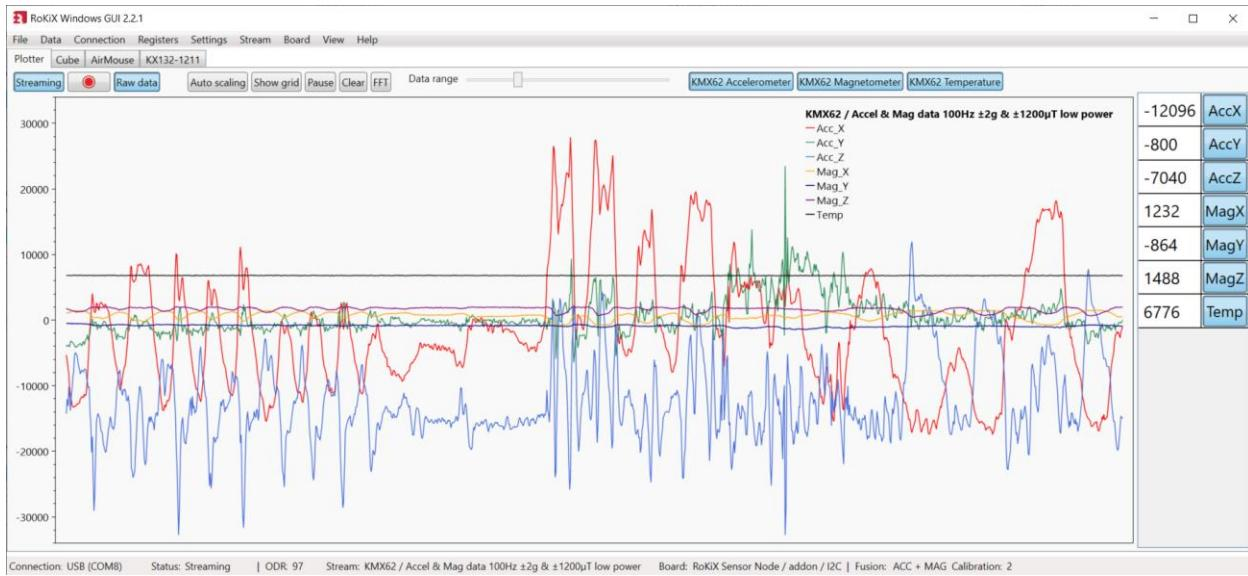

Figure 21: Plotter view with KMX62 stream.
**NOTE:** When you have a very high ODR (12.8 kHz or 25.6 kHz), the digital output can slow down the plotter’s performance. (Figure 21)